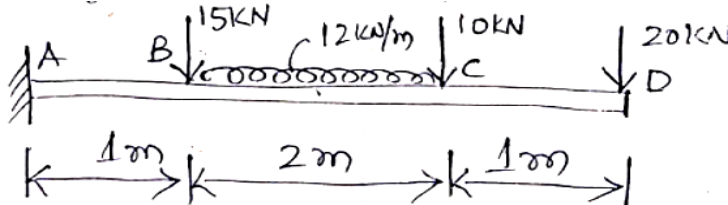

Fig. Q5 (b)
- b. A cantilever beam carries point loads and UDL as shown in the Fig. Q5 (b). Draw the SFD and BMD. 12 (2 : 3 : 2.4.1)